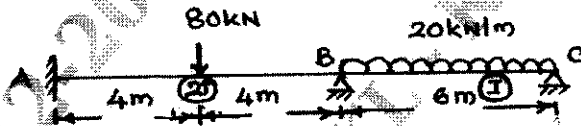

Fig.Q1
- 1 Analyse the beam completely by slope deflection method relative to support A support B sinks by 1mm and support C rises by 0.5 mm. Take  $EI = 30000 \text{ kN-m}^2$ . Refer Fig.Q1. Draw BMD, SFD and Elastic curve.